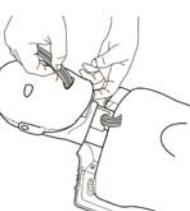

Figure 6
- Push the Lung-Bag into the mouth until the bag exits through the neck of the manikin (Figure 6).